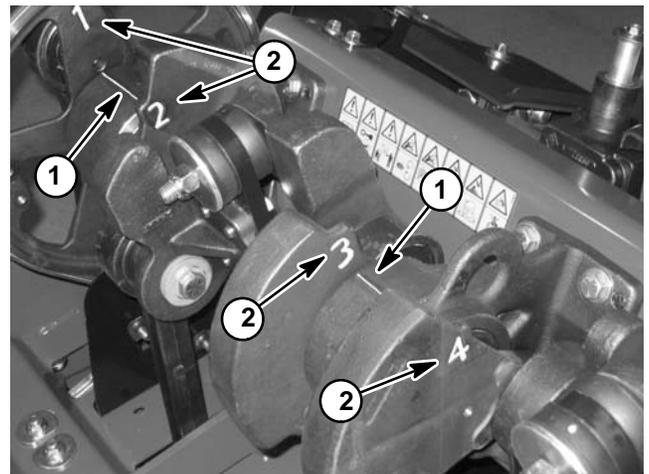

Figure 19
5. Drive spring pins (item 11) from bearing housing and coring head frame.
- A. Remove cap screw (item 1) and flat washer (item 2) that fasten crankarms together. Take note of alignment of crankarm identification number with timing mark on bearing housing (Fig. 19).
3. Install crankarms into bearing housing. Make sure that correct identification number on crankarm is aligned with timing mark on bearing housing (Fig. 19).
4. Install cap screw (item 1) and flat washer (item 2) to retain crankarms. Do not fully tighten cap screw.
5. Drive new spring pins (item 11) into coring head frame holes.
7. Secure bearing housing to frame with four (4) cap screws, eight (8) hardened washers and four (4) lock nuts. Torque fasteners from **70 to 80 ft-lb (95 to 108 N-m)**.
9. Make sure that when #1 crankarm (at pulley) is aligned with cast mark on bearing housing, all subsequent crankarm cast timing numbers are in numerical order (Fig. 19).